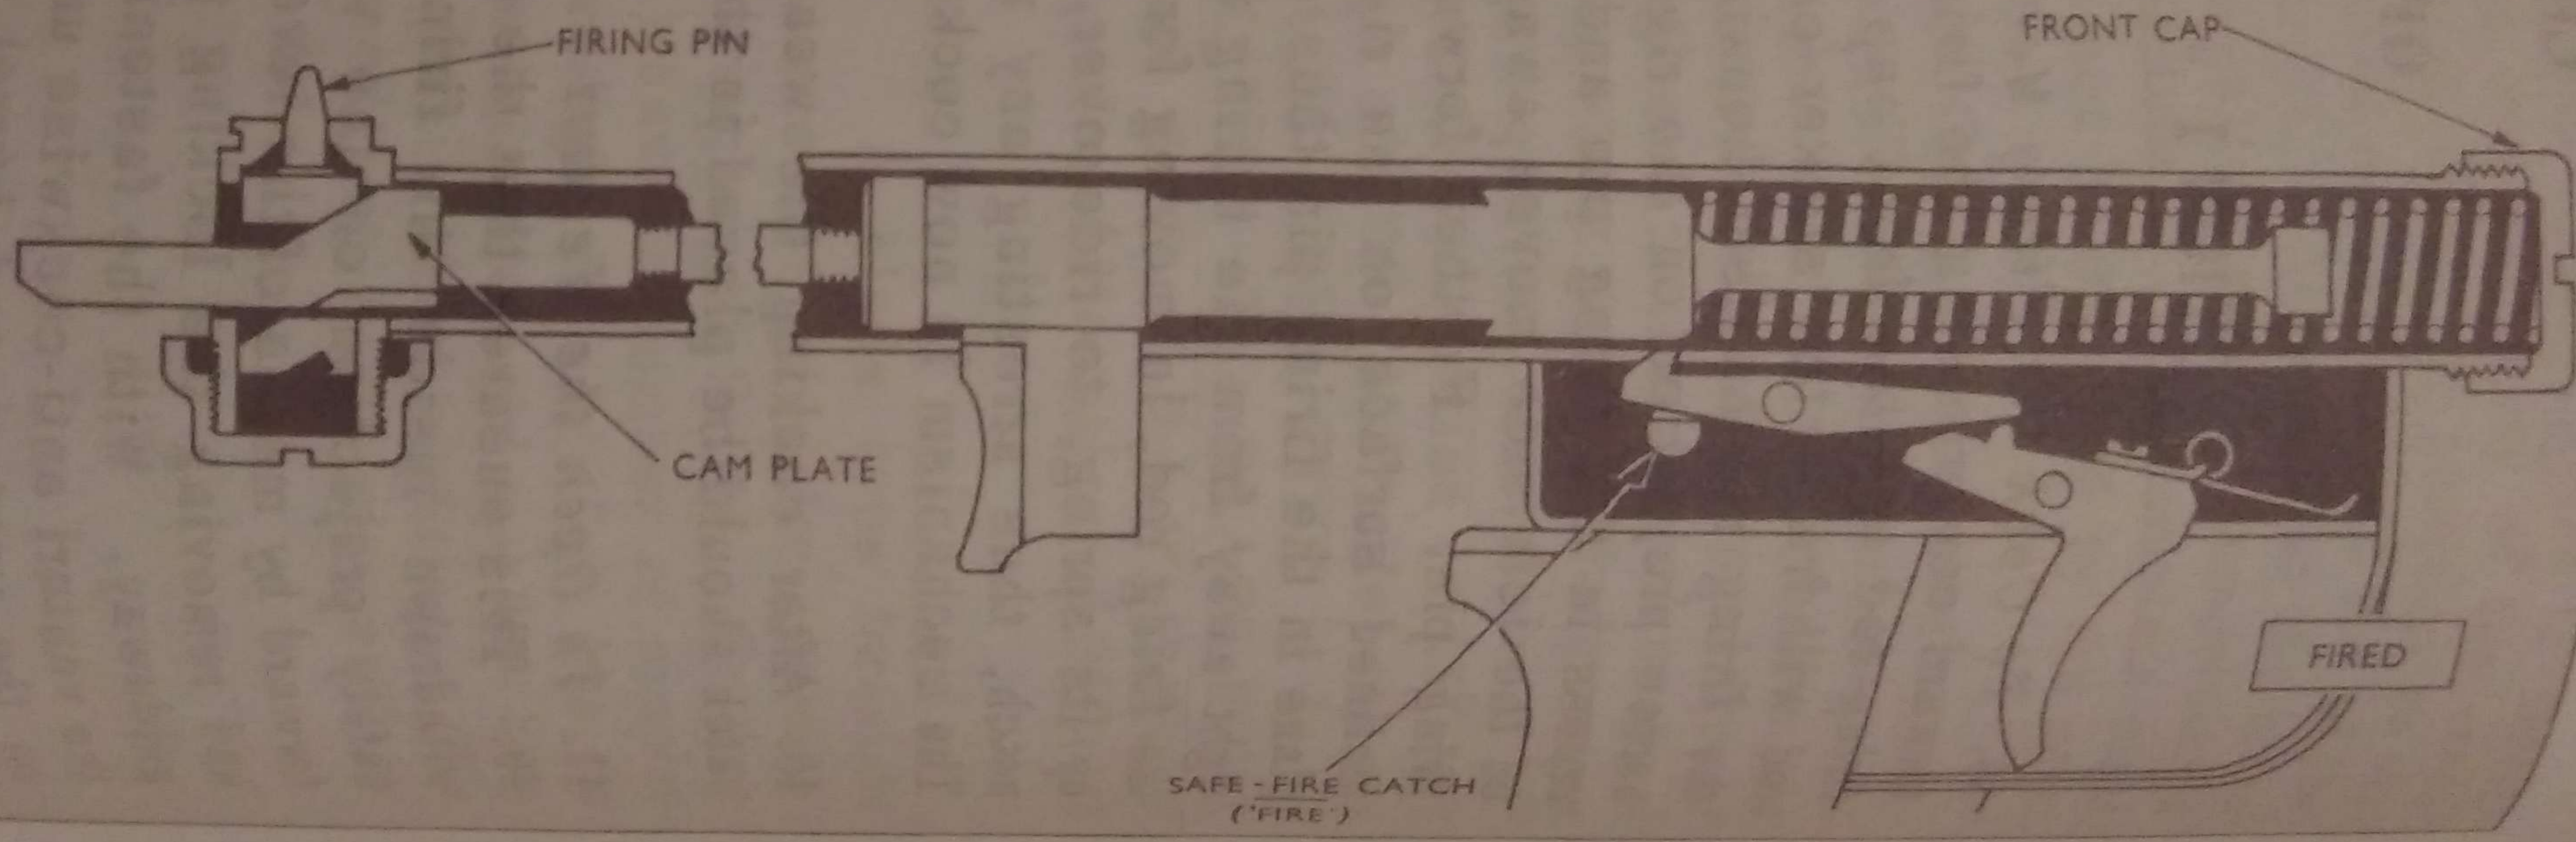

Fig 16 Action of Firing Mechanism
39. *To Cock the Firing Mechanism.* The cocking lever is moved forward compressing the firing rod spring between the head of the firing rod and the front cap (Fig 16). Forward movement of the rod withdraws the striker cam through the aperture in the end of the firing mechanism housing and through the firing pin. The narrow projection on the right of the striker cam moves out of the recess in the firing pin and at the same time the inclined surface on the left side moves away from the inclined surface inside the firing pin. Further forward movement of the cam causes the inclined surface on the right side to engage with the inclined plane in the firing pin thus causing the pin to be withdrawn to the right away from the boring in the barrel. Meanwhile the head of the firing rod, in moving forward, causes the trigger sear assisted by its spring, to ride over, and come to rest behind the cocking notch, thus arresting any rearward movement of the mechanism. The mechanism is now cocked and ready to fire.
44. *To Fire the Mechanism.* The trigger is pulled to the rear thus removing the sear from the head of the firing rod (Fig 16). The firing rod spring immediately re-asserts itself and via the firing rod head, causes the firing rod to move violently to the rear. In doing so the inclined surface on the face of the striker cam, strikes against the appropriate inclined surface in the firing pin thus causing it to move to the left and impinge upon the primer.
46. *Applied Safety.* The safe-fire catch when turned to safe, (Fig. 16) fouls the rear part of sear, thereby preventing the sear cocking tooth disengaging from the cocking notch in the head of the firing rod. The device only operates when the mechanism is cocked.